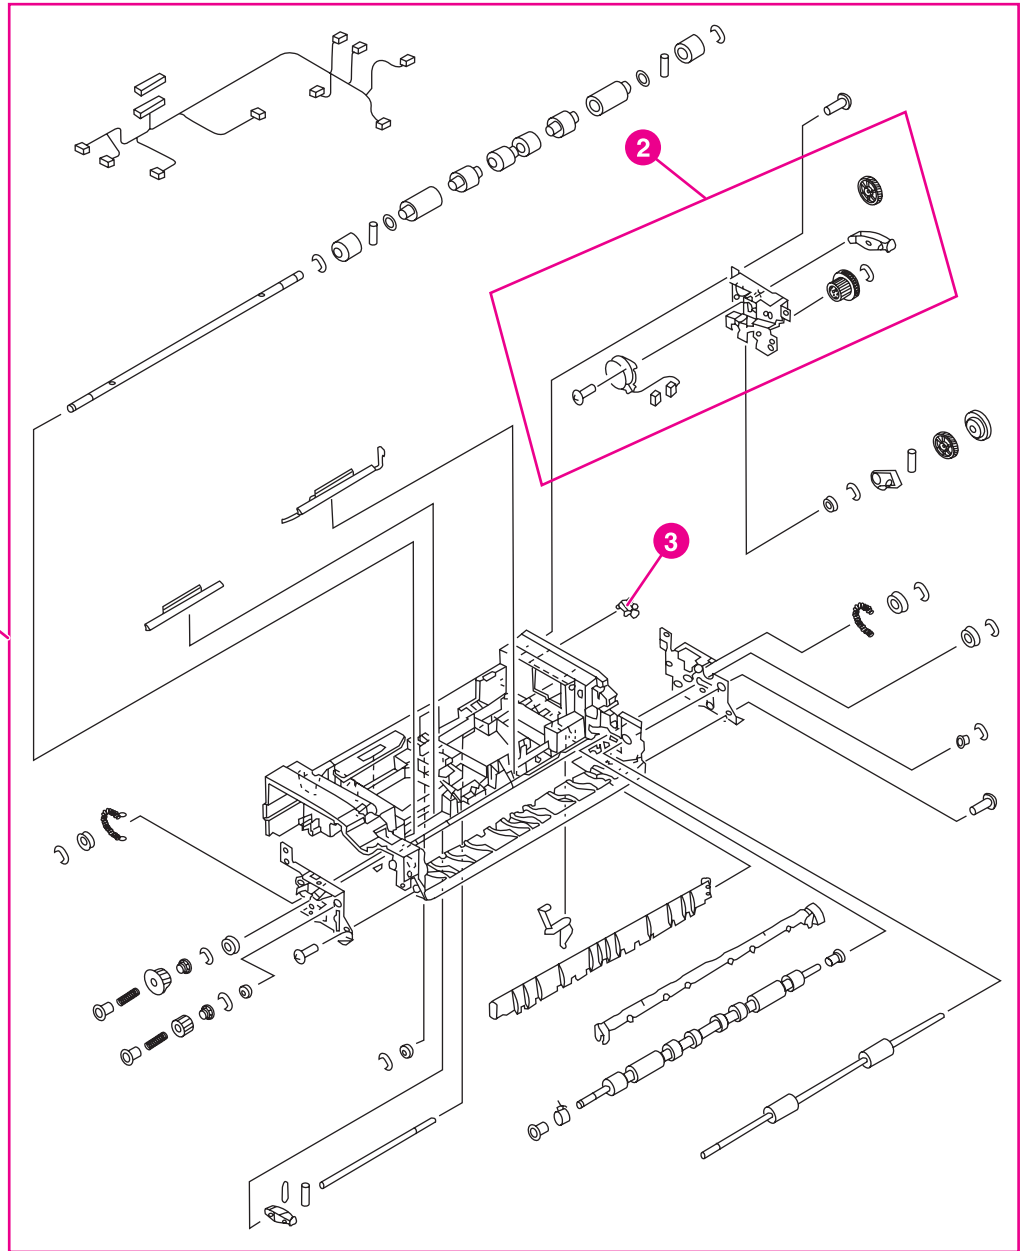
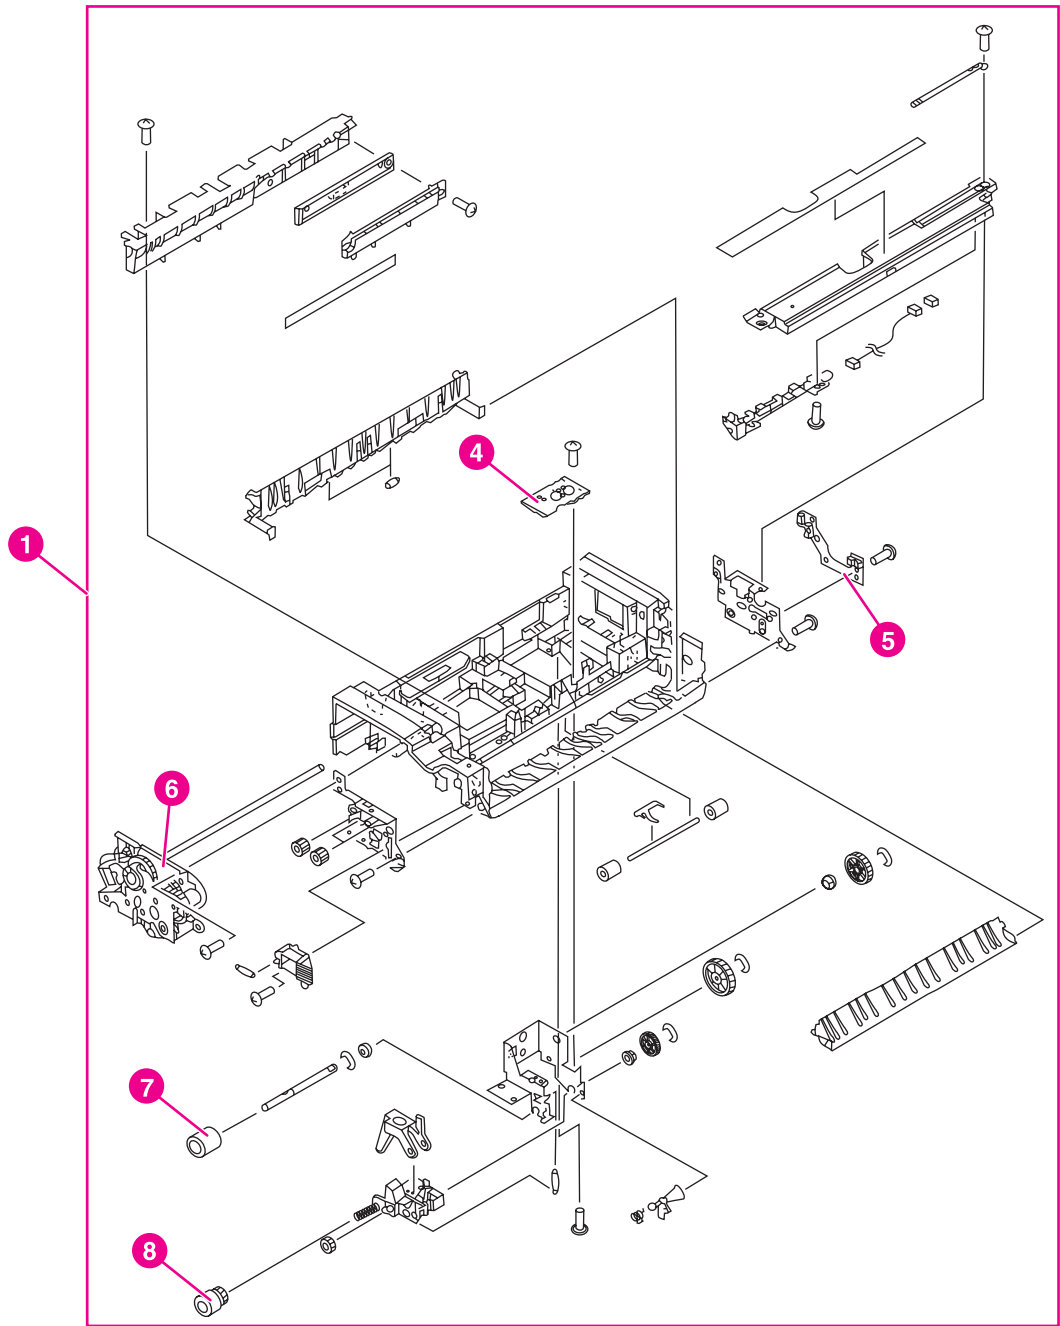

Figure 8-20. Paper pickup assembly (1 of 2)
Figure 8-21. Paper pickup assembly (2 of 2)
Table 8-20. Paper pickup assembly \(1 of 2\) lists parts shown in Figure 8-20. Paper pickup assembly \(1 of 2\) and Figure 8-21. Paper pickup assembly \(2 of 2\). If you order a replacement paper pickup unit (item 1), you will receive all parts shown in both figures.